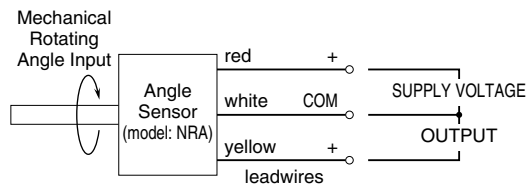

Figure 4. Wiring diagram for connecting the NRA to other devices.
- For connecting the NRA to other devices, refer to Figure 4. Other cautions are necessary as described below:
- 1) The output waveform of the NRA is approx. 20 kHz in full-wave rectified form. When a CR circuit is used for smoothing the signal before supplying it to a receiving instrument, the resistance (R) must be 10 kΩ or greater.